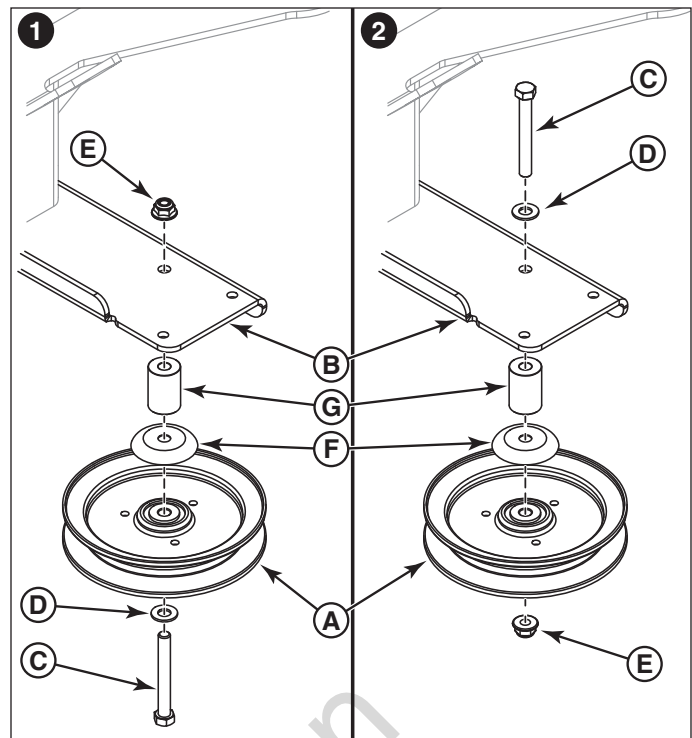

Figure 11. Changing the Orientation of the Hardware for the Rear Guide Pulley
The orientation of the hardware that secures the rear guide pulley (**A**, **Figure 11**) to the lower pulley support plate (**B**) must be changed to provide adequate clearance for the new gearbox.
1. See **inset 1, Figure 11**. Remove the 3/8-16 X 3" bolt (**C**), 3/8 SAE washer (**D**), and 3/8-16 hex nylock flange nut (**E**) that secures the rear guide pulley (**A**), pulley shield (**F**), and spacer (**G**) to the lower pulley support plate (**B**). Discard the 3/8-16 hex nylock flange nut.
2. See **inset 2, Figure 11**. Route the existing 3/8-16 X 3" bolt down through the 3/8 SAE washer, lower pulley support plate, spacer, dust shield, rear guide pulley and secure with a new 3/8-16 hex nylock flange nut.